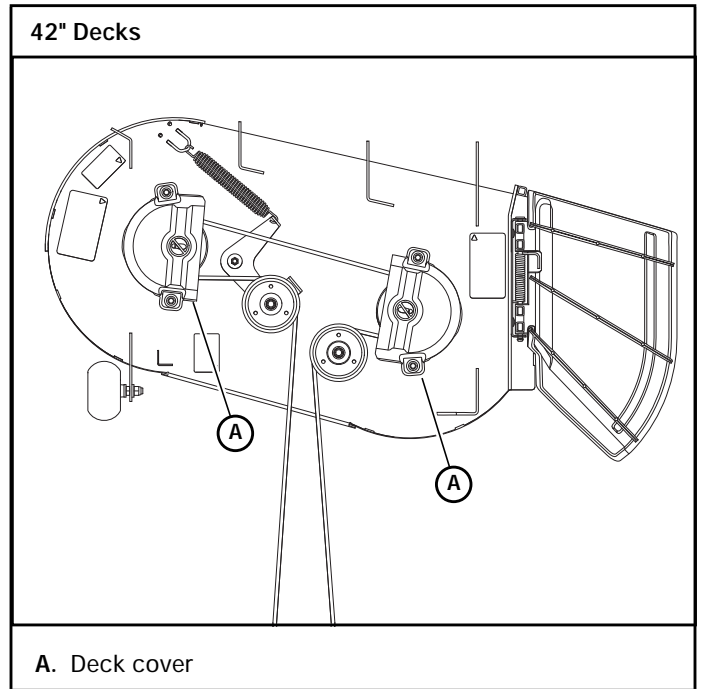
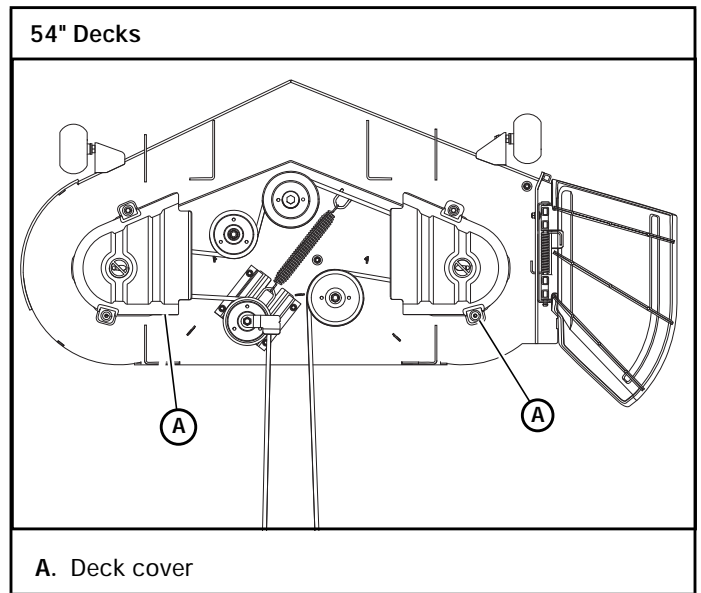

Figure 6-11
Figure 6-12
3. Remove the deck covers. Figure 6-11 & Figure 6-12
9. Re-install the deck covers. Figure 6-11 & Figure 6-12